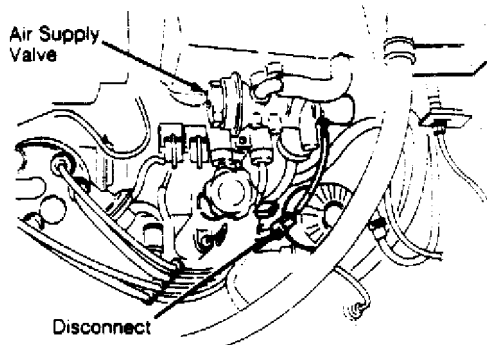

Fig. 8: Testing Air Supply Valve
2) Disconnect air supply valve connector and make sure that engine speed decreases. Reconnect air supply valve connector and make sure that engine speed increases to idling speed (800 RPM). If air supply valve does not function, replace unit. See Fig. 8.